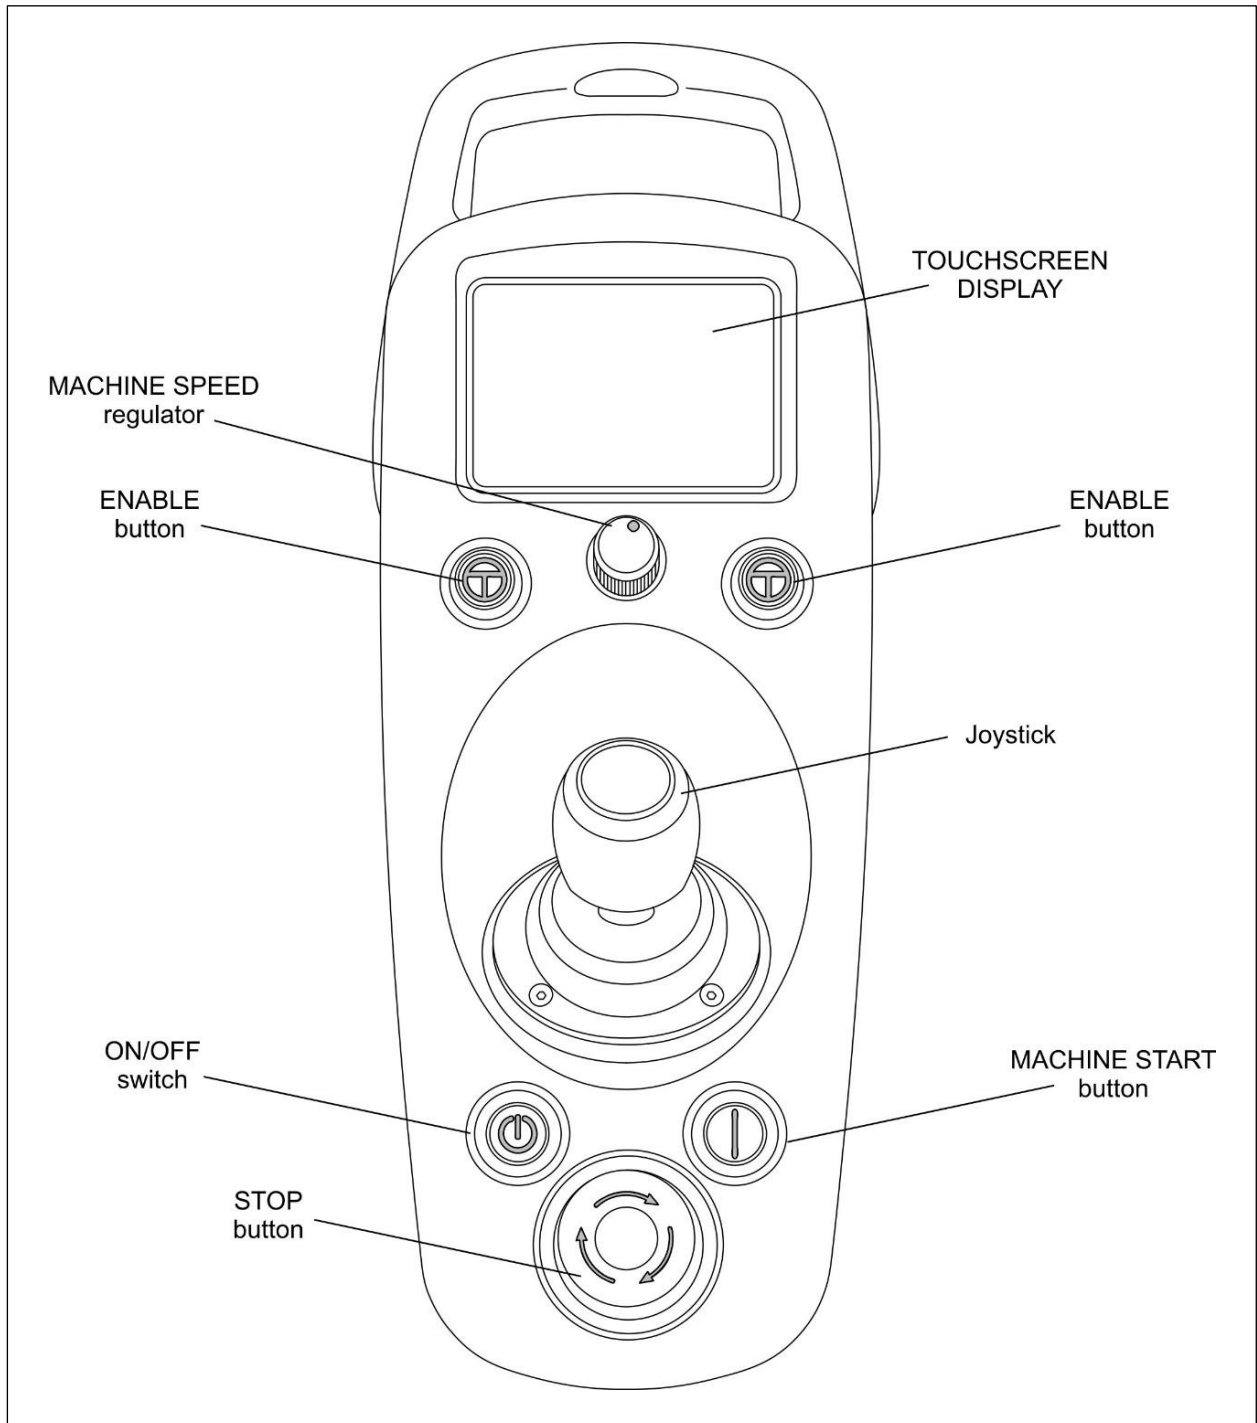

Figure 5 UJB Portable Unit front view
**Note:** while the STOP button is depressed, the unit checks the integrity of the ENABLE buttons that therefore **MUST NOT** be depressed simultaneously with the STOP button. If this happens, the error that will occur will be recoverable only by power cycling the unit (switching off / on the unit by means of the ON/OFF switch, see Figure 5).
Switch on/off the UJB Wireless Portable Unit using the ON/OFF button (see Figure 5 of page 11).